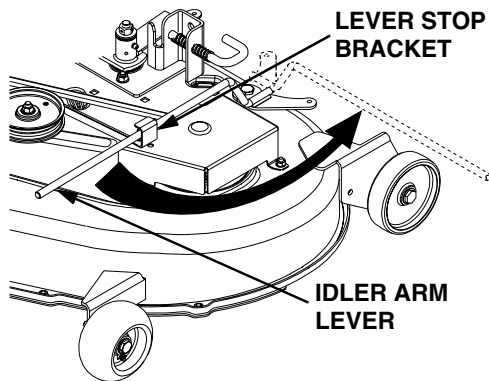
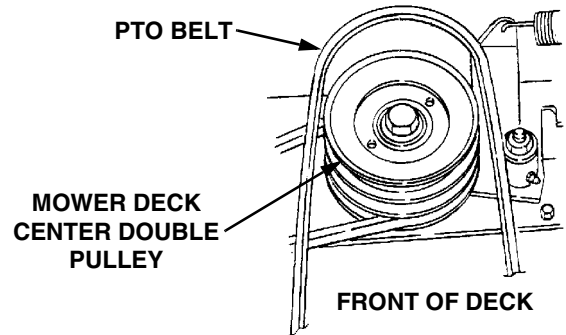

Figure 40
Figure 41
5. Lower the implement lift handle to its lowest setting. Disengage the deck idler arm lever from its stop bracket and release the spring tension by rotating the lever out and rearward (Refer to Figure 40).
6. Remove the rearward end of the PTO belt from the upper pulley of the deck center double-pulley (See to Figure 41). Engage the deck idler arm lever back into its stop bracket (Refer to Figure 40).